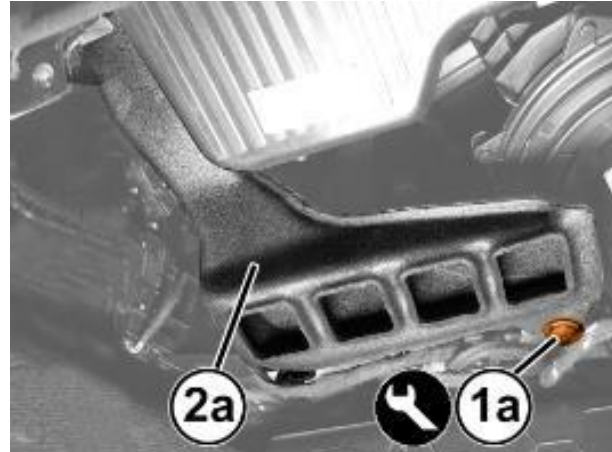

Figure 40 – Air Vent
24. Use tool Trim Stick C-4829A (1823015000) to disconnect the retaining pin with central pin (1a) and release the air vent (2a) (Figure 40).
CAUTION: Carefully move the air vent (2a) only when accessing the ABS module fasteners to avoid damaging it (Figure 40).